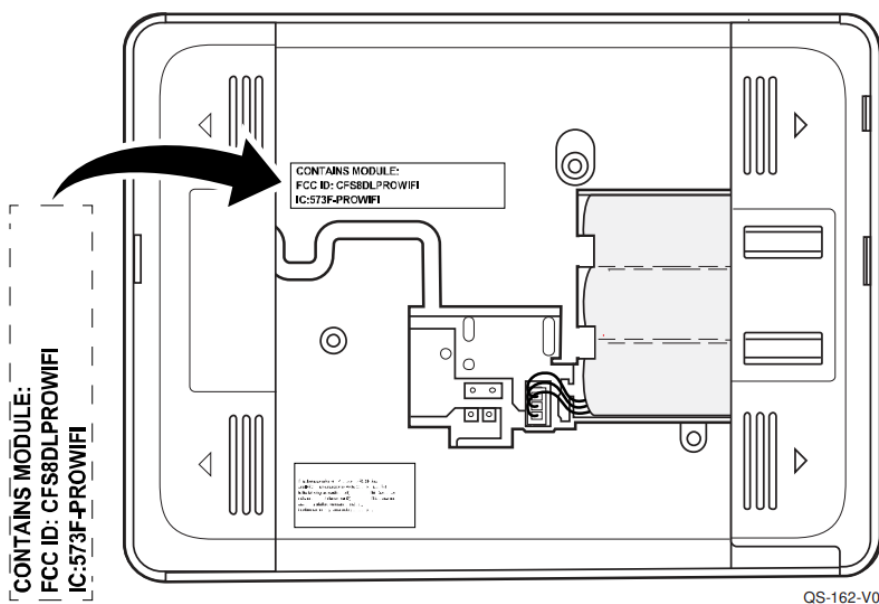

Figure 1. FCC/IC Label Location
1. Affix the provided FCC/IC label (P/N R800- 26437A for the PROWIFI) on the control's case back (refer to Figure 1).